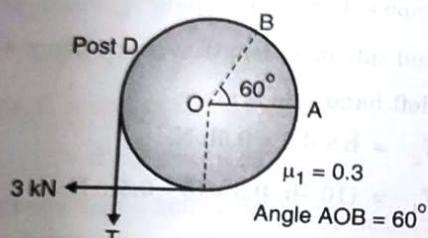

Fig. P. 7.14.30(a)
7.14.30 : Determine the maximum tension in the rope at points A and B that is necessary to maintain equilibrium as shown in Fig. P. 7.14.30(a). Take $\mu_s = 0.3$ between the rope and fixed post D.